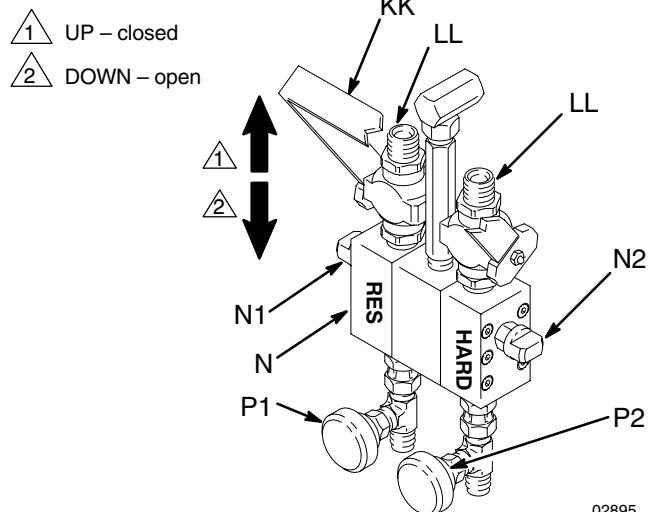

Fig. 11
To open or close the mixer manifold (N) fluid valves (LL) push the handle (KK) down to open and up to close. See Fig. 11.
3. Place a container under the drain valves (P1,P2) of the mixer manifold (N). See Fig. 11.
8. Open the hardener side drain valve (P1). Open the mixer manifold handle (KK). See Fig. 11.
11. Open the hardener solvent flush valve (N1) on the mixer manifold (N). See Fig. 11.
- d. Open the resin solvent flush valve (N2) and repeat Step c. See Fig. 11.